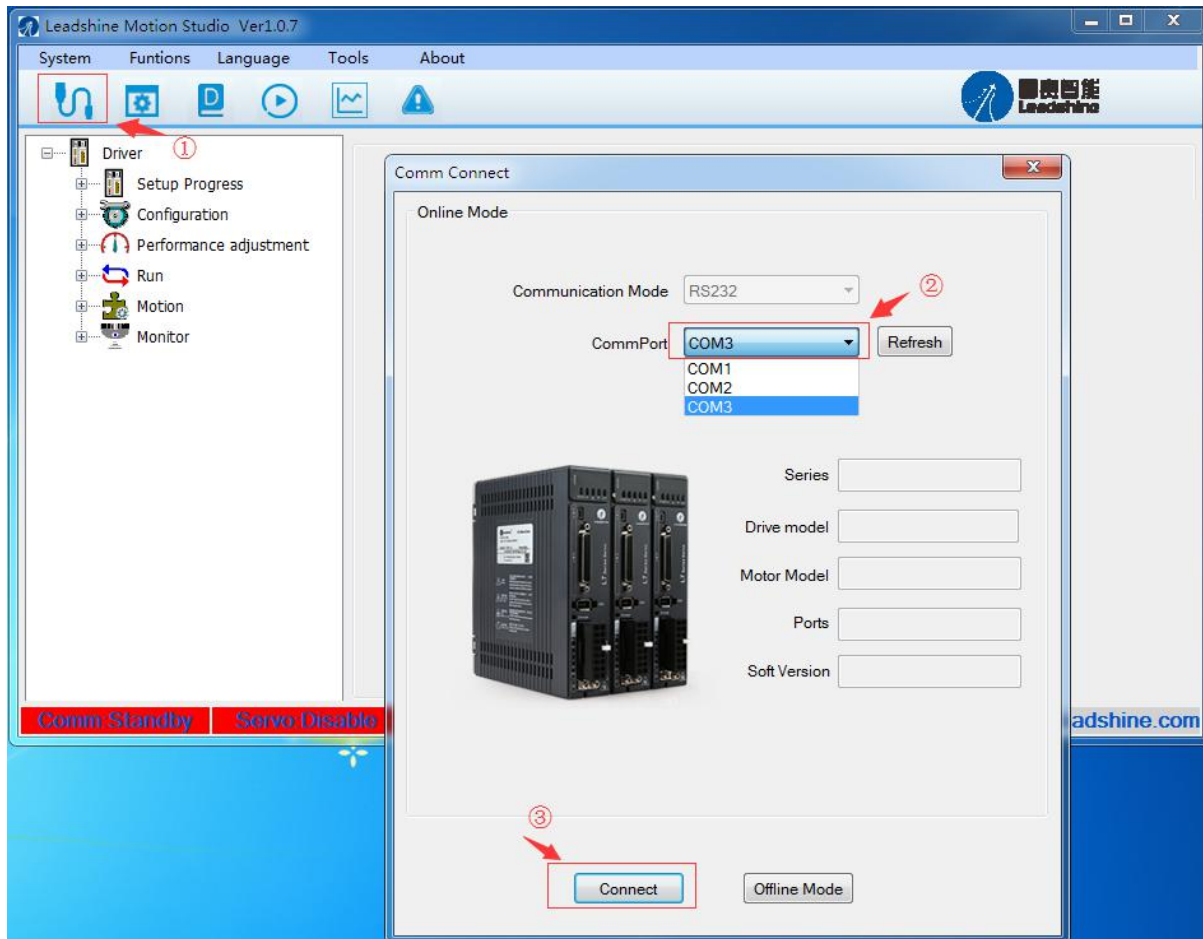

Figure 4: Communication screen
- Launch Leadshine Motion Studio software, Step 1 to click the icon  as Figure 4. **Please do not click offline mode and any other icon**
- Step 2 to select the correct COM port from “CommPort” dropdown list control (Figure 4). When a USB to RS232 adaptor is used, you can go to Device Manager of your computer to find the correct port.